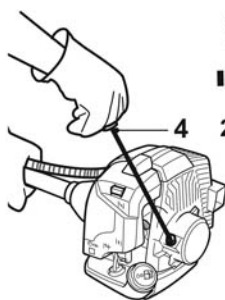

Fig. 22
- > Immobilise the appliance and pull the ripcord handle [4] 4 to 5 times; the machine shouldn't start yet (Fig. 22).
- > Immobilise the appliance and pull the ripcord handle sharply [4] until the engine starts (Fig. 22).
- > Immobilise the appliance and pull the ripcord handle sharply [4]; repeat until the engine starts (Fig. 22).